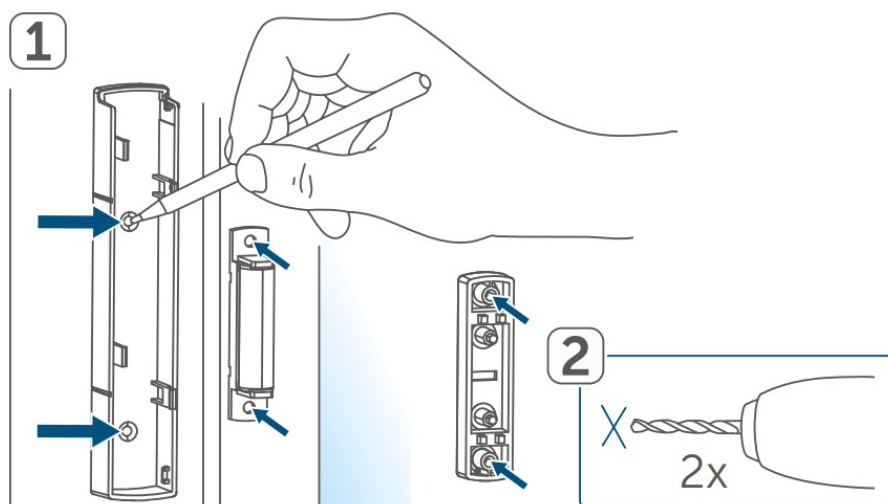

Figure 9
- Detach the bracket (A) from the electronic unit (B) by sliding it downwards and removing it to the rear (**see figure**).
- Insert two new 1.5 V LR03/micro/ AAA batteries into the battery compartment (F), making sure that you insert them the right way round (**see figure 9**)